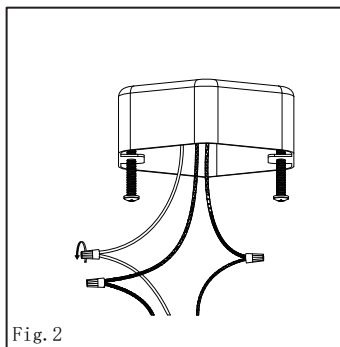

Fig. 2
2. Connect the black supply wire to the black fixture wire using a wire connector. Connect the white supply wire to the white fixture wire using a wire connector. Connect the fixture ground wire to the supply ground wire using a wire connector.(Fig.2)
3. Carefully tuck all wiring into the outlet box. Align the fixture pan over the outletbox, position the mounting screws through the large openings of the key hole slots. Rotate the fixture pan to seat the screws, and tighten securely.(Fig.2)